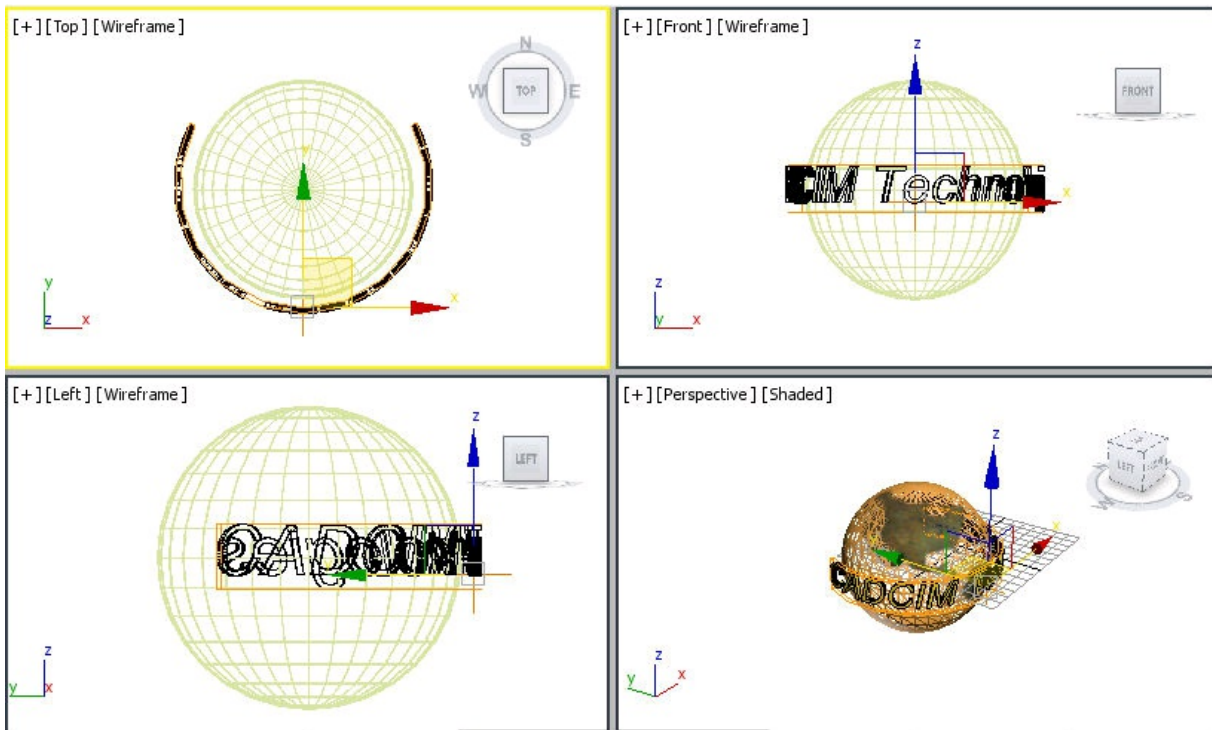

Figure 14-47 The *Text001* aligned in viewports after applying the **Extrude** and **Bend** modifiers
11. Align *Text001* in viewports, as shown in Figure 14-47.